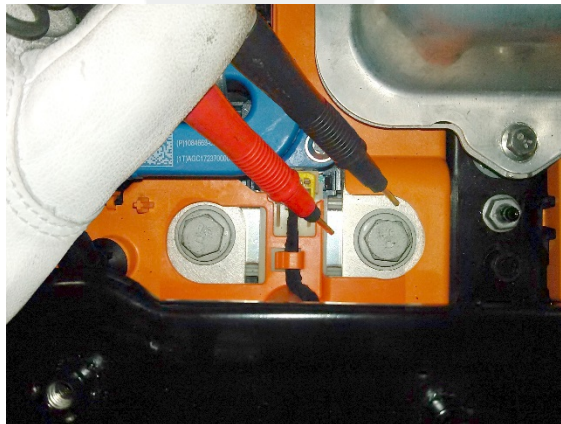

Figure 5
11. **Dual Motor vehicles only:** Use the Hioki resistance meter to measure the resistance at the HV joint between the front drive unit HV header and the busbar at each bolt (Figure 5).